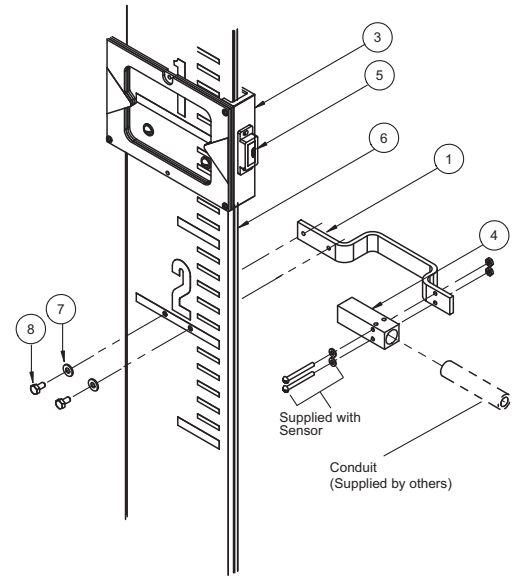

Figure 2 - Sensor Install
2. Mount the magnetic sensor as required on the gaugeboard as shown in Figure 2. Use the included drilling template.